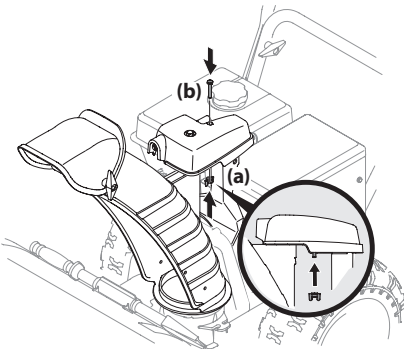

Figure 2-23
- 3. Finish securing chute control head to chute support bracket with wing nut (a) and hex screw (b) removed in Step 1. See Figure 2-23.